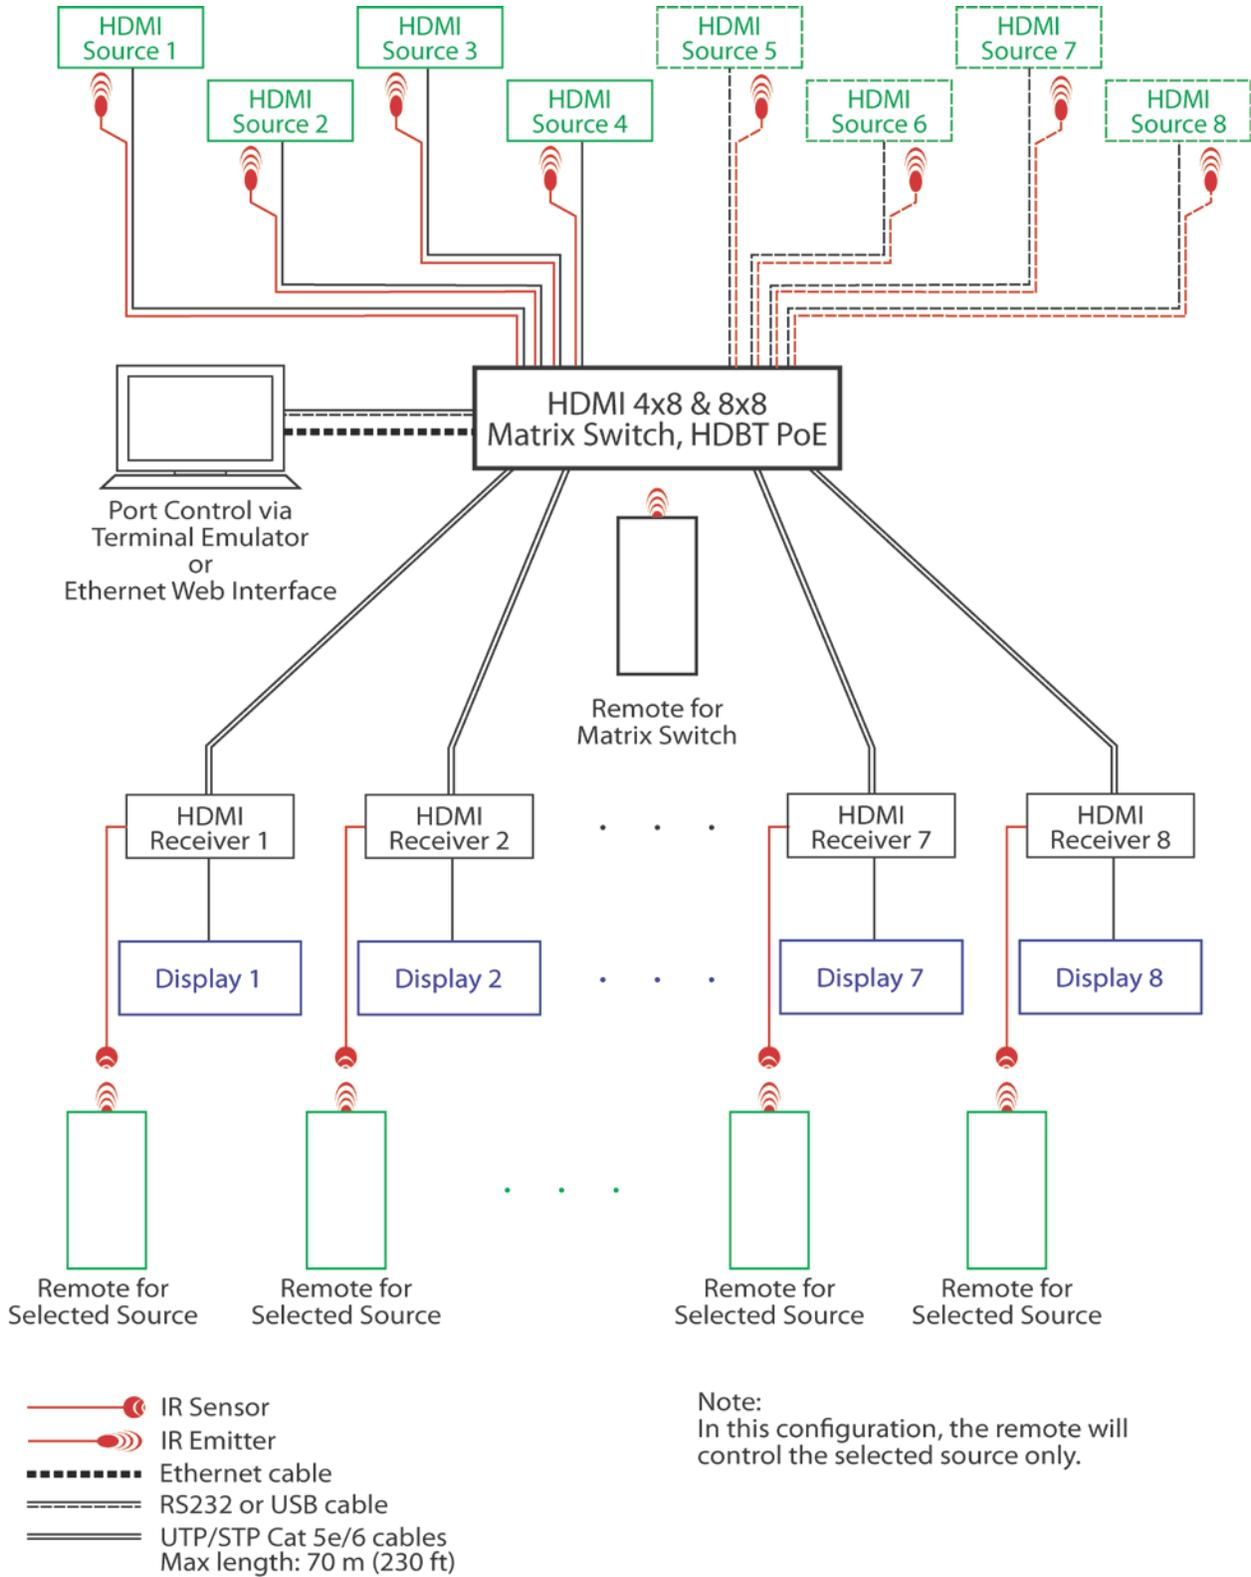

Figure 8: Typical Configuration (I)
10. Figures 8 and 9 show some typical configurations.
Using source remotes, sources can be controlled at display locations via receivers (see Figure 8). To do so, make sure that the IR emitter cable leading from the *IR Emitters* port 1 on the back of the Matrix Switch has its emitter end placed in front of IR sensor on source 1. The HDMI 4x8 Matrix Switch is equipped with 4 IR emitter ports, and the HDMI 8x8 Matrix Switch is equipped with 8 IR emitter ports. Do the same for all ports and all sources (see Table 3).